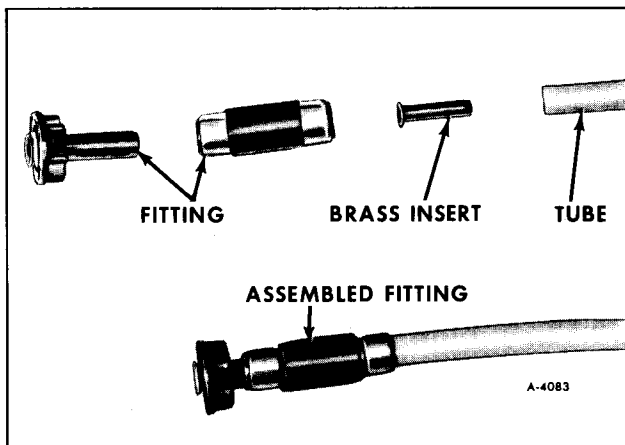

Figure 5—Coupling Assembly
2. Place brass insert into end of tube and put appropriate fitting over it (figure 5).